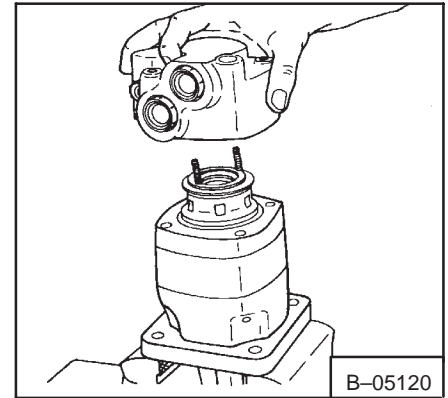

Fig. 3-36 Removing The Valve Housing
3. Lift the valve housing (Fig. 3-36) straight up. If done carefully, the springs and balance plate will stay on the valve.